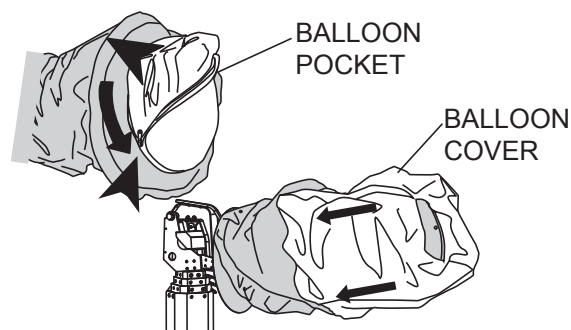

Figure 23. Unzipping Balloon Cover
1. Unzip the cover pocket at the top of the balloon. Take out the cover and fold the balloon with it (Figure 23).